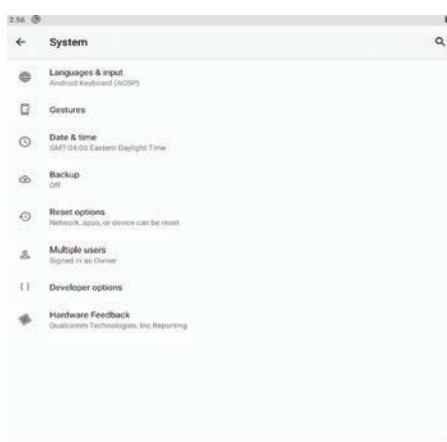

Figure 62. Advanced
3. Tap on **System**, and then on **Advanced**, (Figure 62).